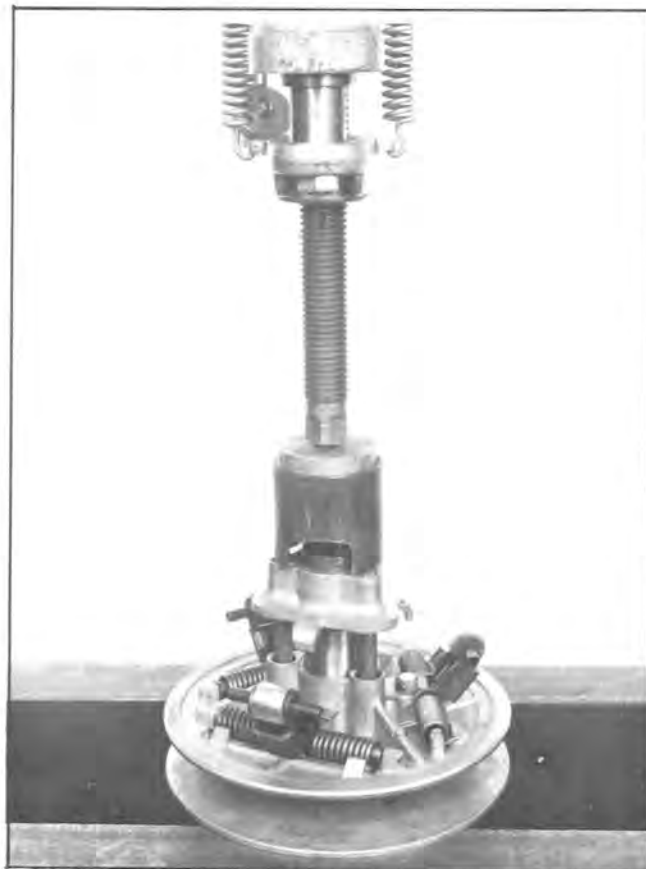

Fig. 64 — Pressing Drive Plate Over Shaft of Inner Sheath
- e. Preassemble face and weight assembly, slide it over shaft of the inner sheath then use a suitable pressing arrangement as shown in Fig. 64 to press drive plate into position until snap ring can be installed.